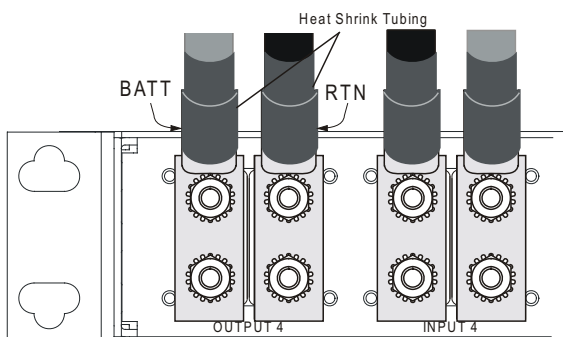

Figure 8 - Output Lug Connections
13. For output wiring, repeat Steps 7 through 10 for **BATT** and **RTN** *outputs* (crimp output wires to lugs, clean output terminals, and attach lugs to output terminals). Heat shrink lug barrels. See Figure 8.